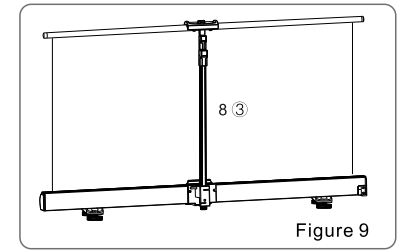

Figure 9
1. Push the uphold locker using one hand simultaneously pull down the uphold bar (8①) with another hand . Repeat the same action to low down the uphold bar (8②). (Figure 9)